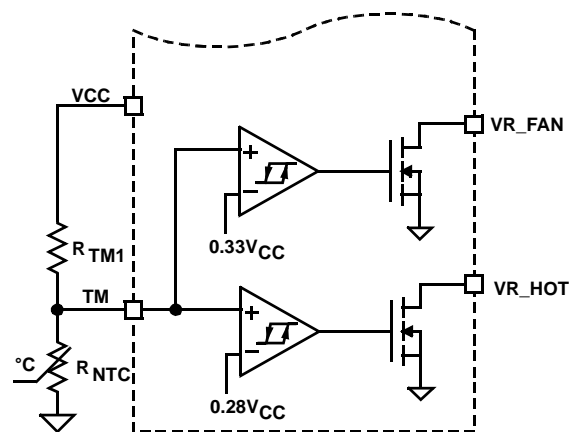
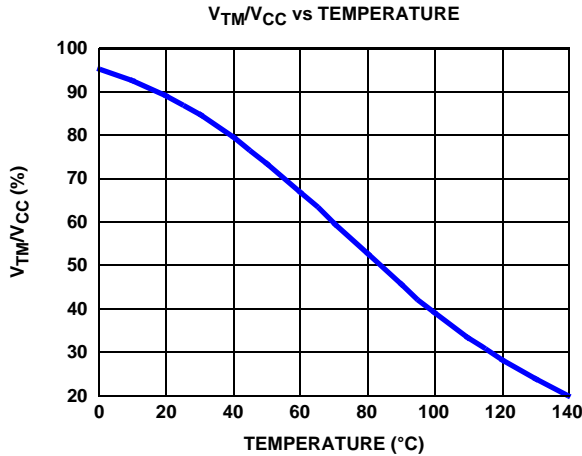

FIGURE 11. BLOCK DIAGRAM OF THERMAL MONITORING FUNCTION
FIGURE 12. THE RATIO OF TM VOLTAGE TO NTC TEMPERATURE WITH RECOMMENDED PARTS
The diagram of thermal monitoring function block is shown in Figure 11. One NTC resistor should be placed close to the power stage of the voltage regulator to sense the operational temperature, and one pull-up resistor is needed to form the voltage divider for the TM pin. As the temperature of the power stage increases, the resistance of the NTC will reduce, resulting in the reduced voltage at the TM pin. Figure 12 shows the TM voltage over the temperature for a typical design with a recommended $6.8\text{k}\Omega$ NTC (P/N: NTHS0805N02N6801 from Vishay) and $1\text{k}\Omega$ resistor R_{TM1} . We recommend using those resistors for the accurate temperature compensation.
Based on V_{CC} voltage, ISL6326 converts the TM pin voltage to a 6-bit TM digital signal for temperature compensation. With the non-linear A/D converter of ISL6326, the TM digital signal is linearly proportional to the NTC temperature. For accurate temperature compensation, the ratio of the TM voltage to the NTC temperature of the practical design should be similar to that in Figure 12.
1. Properly choose the voltage divider for the TM pin to match the TM voltage vs temperature curve with the recommended curve in Figure 12.